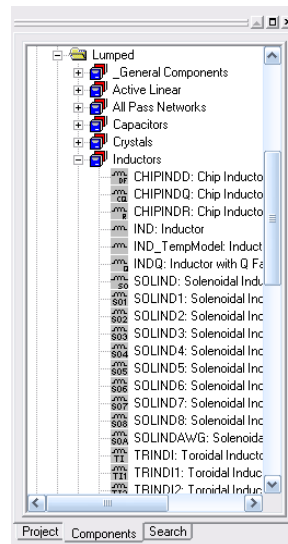

Figure 2. Selecting an inductor from the components list.
6. Inductors are listed under lumped elements. Expand the **Lumped** elements listing and then expand **Inductors**. Fig. 2 shows how this